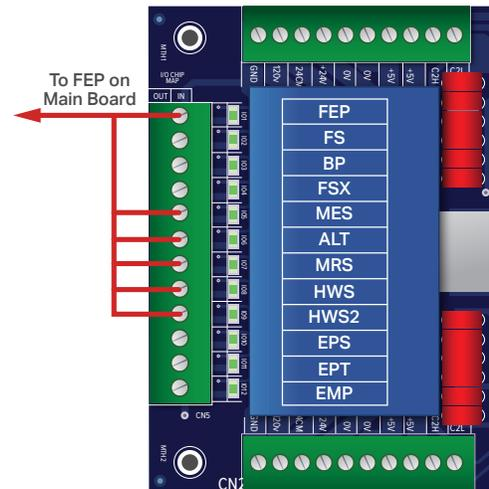

Figure 1: Typical I/O Expansion Board
- 3 Add temporary connections on the GALX-1102 Main I/O Board and Expansion I/O boards as shown in **Figures 1, 2, 3, and 4**.